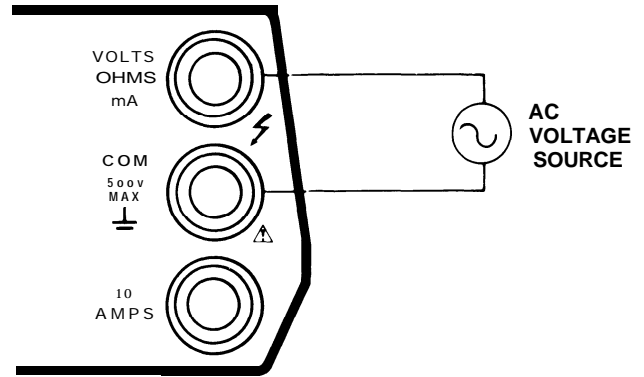

Figure 2-3. TRMS AC Voltage Measurements
- Connect the test leads to the source as shown in Figure 2-3.